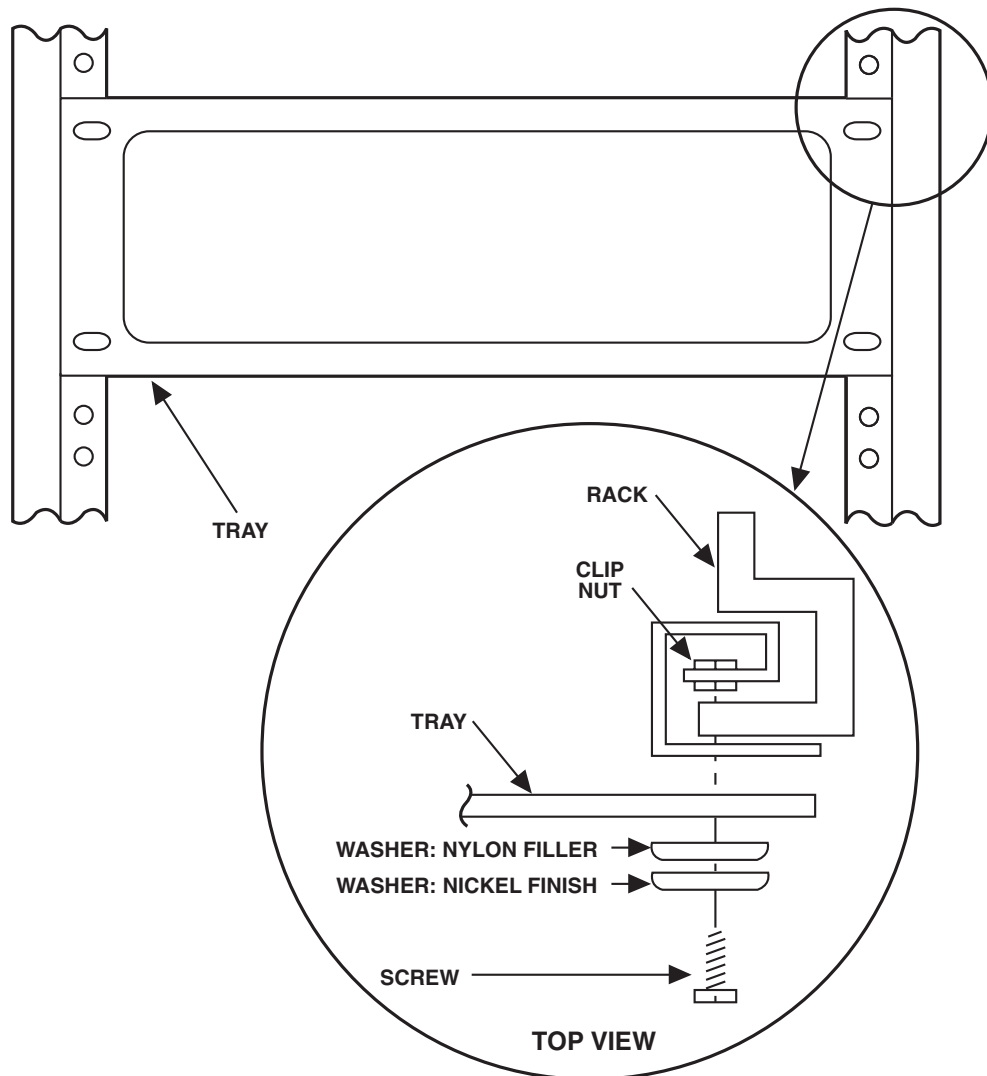

Figure G-1. Clip nut assembly for rack.
2. Secure both sides of the tray to the rack, using the screws and the washers (see **Figure G-1**).